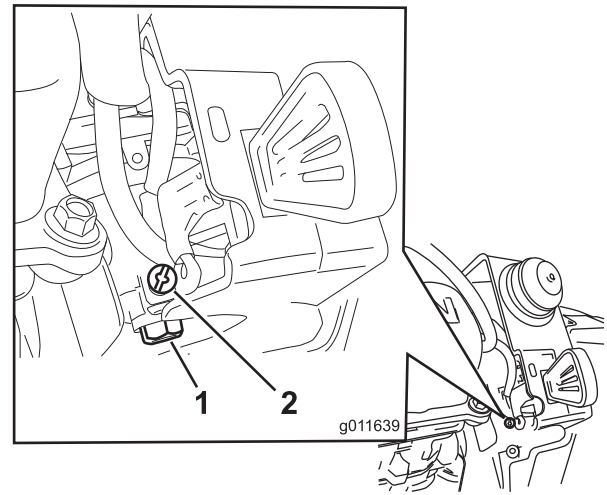

Figure 31
- A. Unscrew, but do not remove, the small screw on the side of the carburetor fuel bowl (Figure 31) until the fuel begins to drain from the carburetor. Drain the fuel into an approved fuel container.